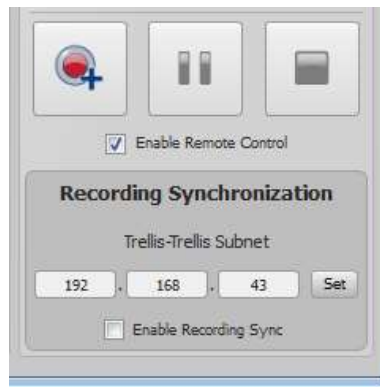

Figure 3-36 Trellis File Save - Recording Synchronization Form
- The two instances of Trellis must be configured to look for one another on the Trellis-Trellis network. This is accomplished via the Recording Synchronization Form located at the bottom right corner of the File Save interface, as shown in Figure 3-36 below. If you do not see this form you can enable it by checking the “Show Trellis Recording Synchronization Form” option, found in the ‘Tools>Options’ menu. This option is enabled by default and will remain enabled when you restart Trellis. If you do not see the Recording Synchronization Form or the “Show Trellis Recording Synchronization Form” menu option, it means that the processors are not synchronized. Check that both ends of the Processor sync cable are seated properly and restart the processors.